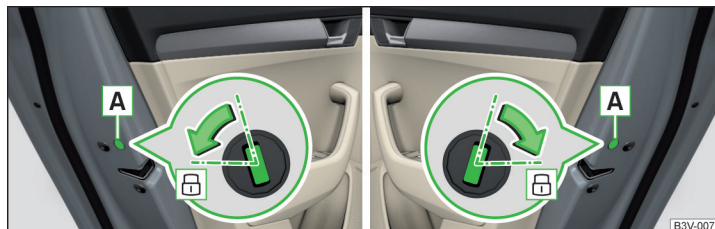

Fig. 261 Emergency locking: Left/right rear door
- Remove the cover **A** » Fig. 261.